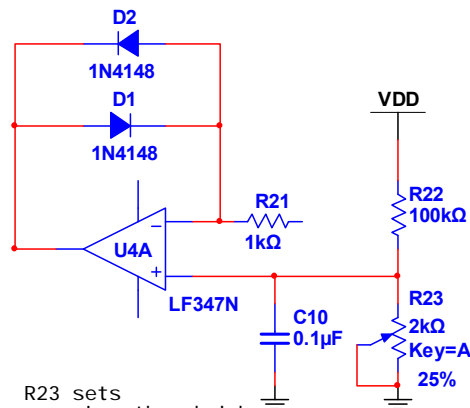

Figure 5-4 – Signal conditioning circuit.
At this point in the receiver we should have a nicely amplified signal that is a reasonably good representation of the transmitter signal and is relatively free of noise and interference. The problem now is that the amplitude of the signal will change as the transmitter is moved closer or further away. This is undesirable. A simple solution is a threshold detector circuit with a clamped output level as shown in Figure 5-4. This circuit produces an output level of 0.6V above or below the reference level at the “+” terminal, depending on which way the signal crosses through this level.
- Construct the circuit shown in Figure 5-4. Note that we need to use a new LF347 chip at this stage, since we have already used up all the op-amps on U3. Start by adding your bias connections and de-coupling capacitors before adding any of the other components in this circuit.